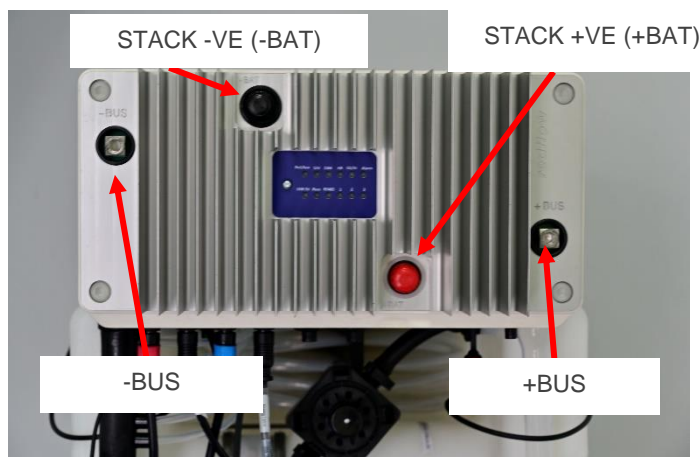

Figure 14: Positive and negative ZBM terminals
- STEP 2** Use a multimeter to check that the ZBM is fully discharged by ensuring the voltage across the positive and negative bus terminals (+BUS, -BUS) shown in Figure 14 is 0V.